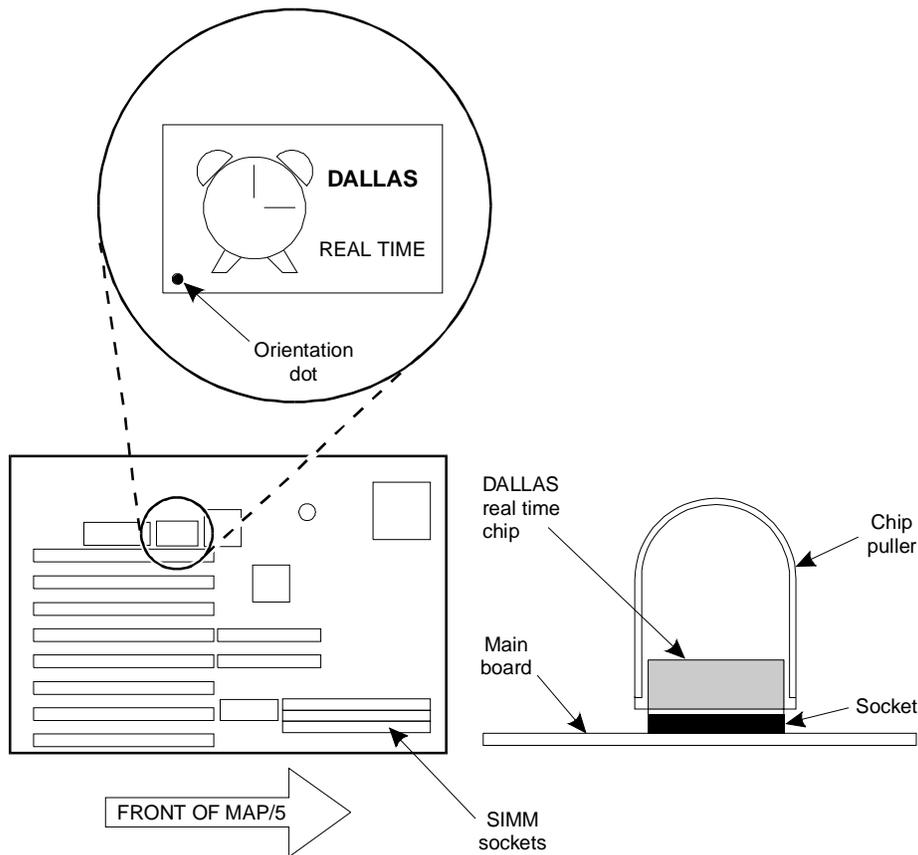

Figure C-12. How to Remove the Battery on the System Board
The battery is included in the real-time clock module. To replace the battery, refer to Figure C-12 and follow these steps:
1. Locate the DALLAS Real Time chip on the system board. See Figure C-12.
See Figure C-12.
3. Align the new chip with the dot positioned as shown in Figure C-12 and press the chip into the socket.